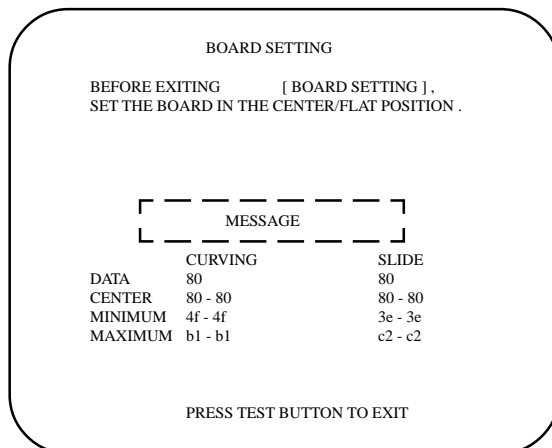

Fig. 7.10b STANDARD SETTING
- Select STANDARD and press the TEST BUTTON. The screen changes to Fig. 7.10b.